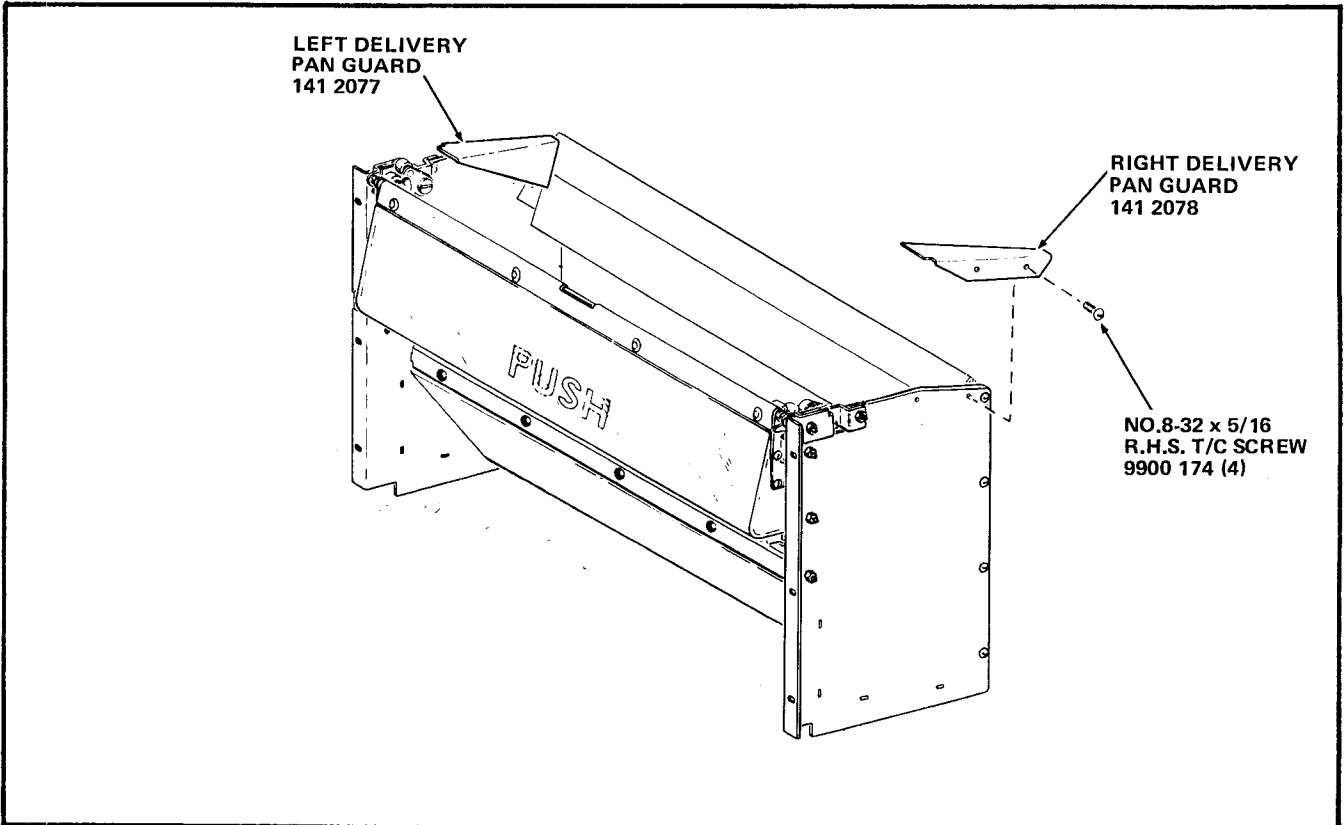

FIGURE 3
5. Position the Left Delivery Pan Guard over the newly drilled holes (Outboard side of End Plate) and install with two No.8-32 x 5/16 Round Head Thread Cutting Screws, Part Number 9900-174, included in the Kit. Tighten the two Screws. See Figure 3.